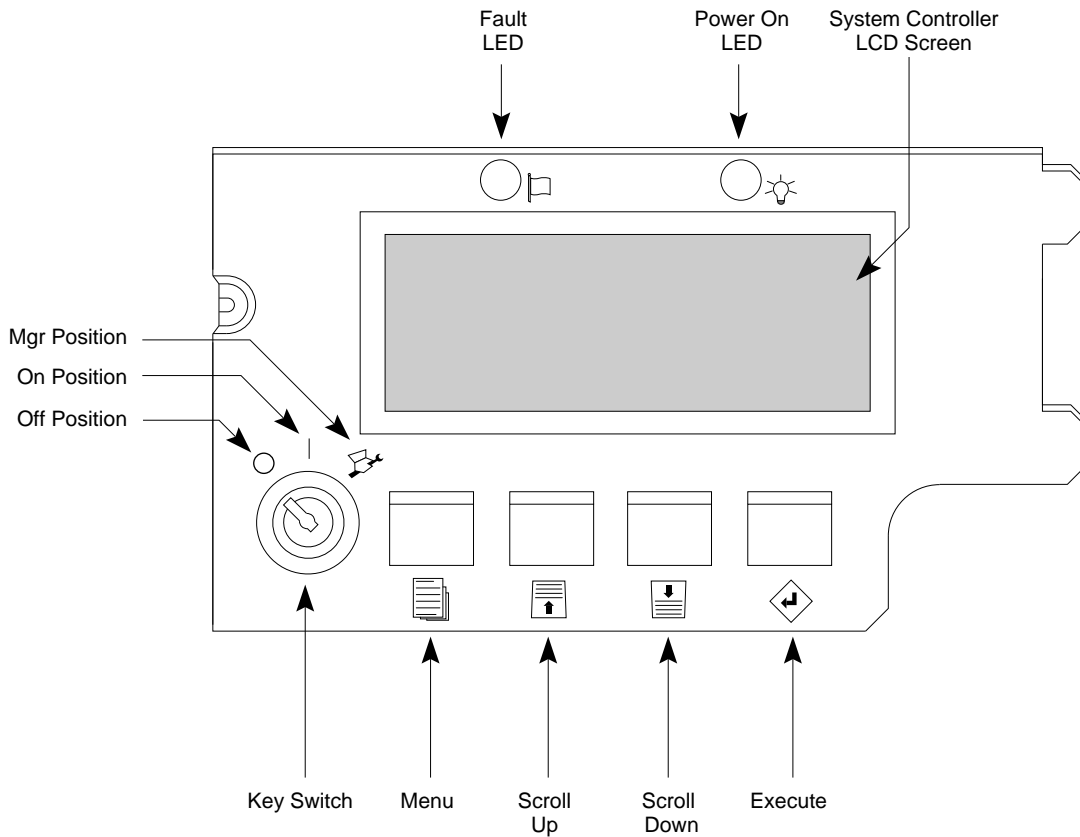

Figure 5-7 System Controller Status Panel
3. Turn the System Controller key switch to the On position (see Figure 5-7).